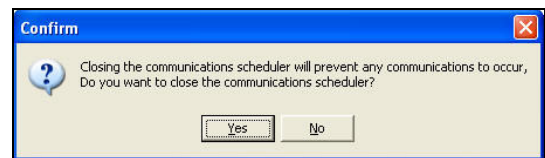

Figure 31.0.5
5. When you click on this option the **“Confirm”** window will appear asking the following **“Closing the communications scheduler will prevent any communications to occur, Do you want to close the communications scheduler ?”** (Figure 31.0.5).